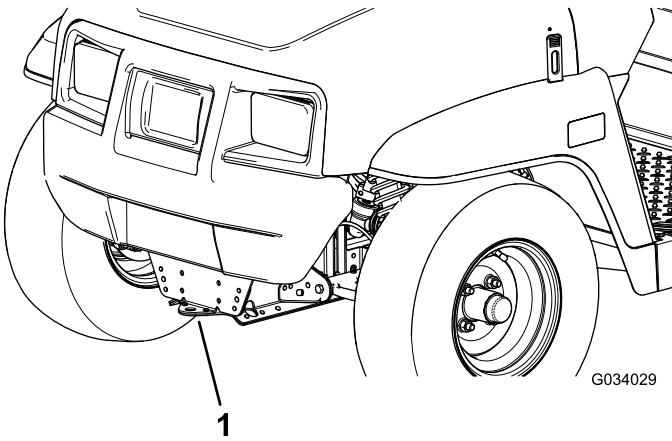

Figure 21
2. Affix a tow line to the tongue at the front of the machine's frame (Figure 21).